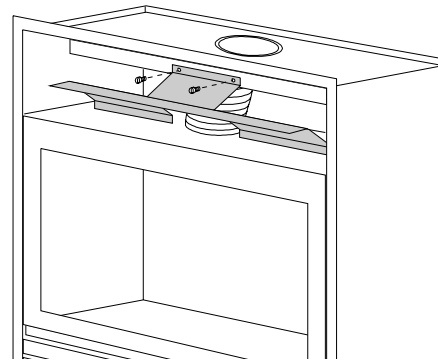

Figure 23a. Installing the heat baffle on the MW38-DV.
2. Take out the heat baffle (shown in Figure 23a) by removing the 2 machine screws.